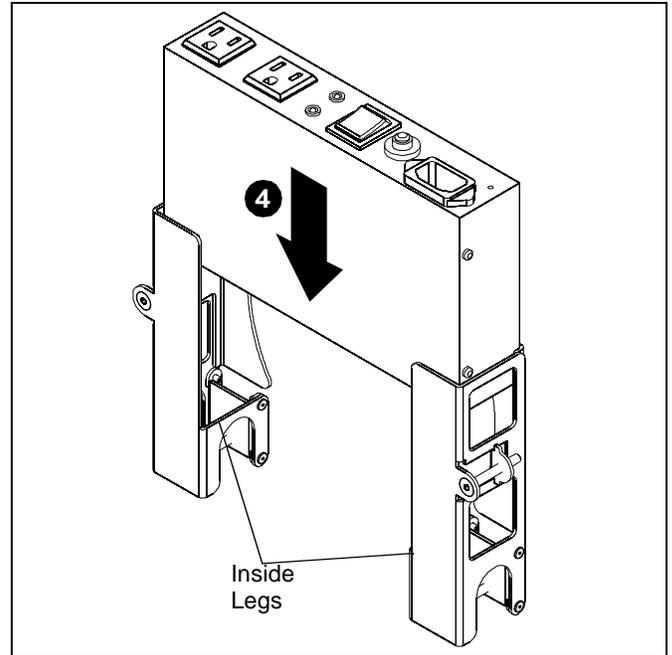

Figure 2
4. Remove paper from Velcro squares, lower and press the surge adapter, or other component, against the left and right brackets. (See Figure 2)
5. Rest the surge adapter on the inside legs of the brackets. (See Figure 2)